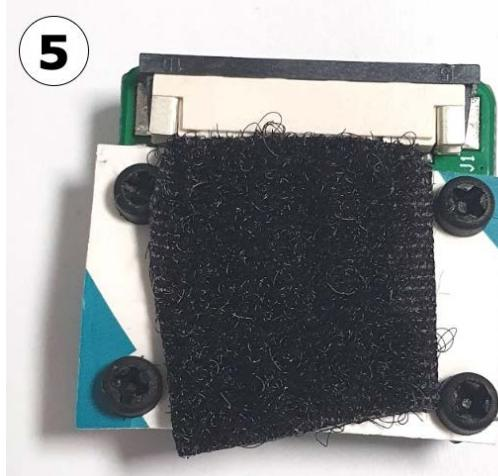

Figure 13.6 – The back of the cardboard/camera assembly with our hook-and-loop fastener
5. Now cut a small amount of the hook-and-loop fabric, to which the material on the pan-and-tilt mechanism will fasten, and stick it to the back of the cardboard, as shown in *Figure 13.6*.